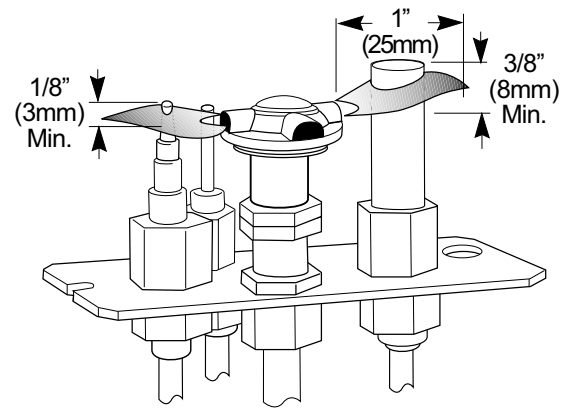

Figure 37. Proper pilot flame appearance.
2. **PILOT FLAME:** You can monitor the pilot flame through the view port located at the rear of the Right Log. See fig. 37. The pilot flame should be steady - not lifting or floating. The flame should be blue in color around the pilot hood, with traces of yellow toward the outer edges.
The pilot flame should engulf the top 3/8" of the thermopile (to generate millivolt current) and the top 1/8" of the thermocouple. The pilot flame should project out of all three pilot hood ports 1" and over to the burner plate carry-over ports. See figs. 37 and 37a.
- **Inspect the pilot head, thermopile and thermocouple for signs of rust or deterioration and replace any components that do.** Check that the pilot head is properly engaged with the throat and is oriented correctly. See fig. 37, page 22.